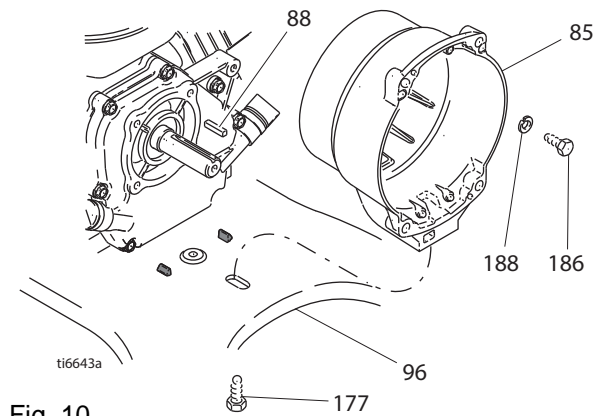

Fig. 10
- 1 Fig. 10. Remove four cap screws (186) and lock washers (188) which hold clutch housing (85) to engine.
- 2 Remove screw (177) from under mounting plate (96).
- 3 Pull off clutch housing (85).
- 1 Fig. 10. Push on clutch housing (5).
- 2 Install four cap screws (186) and lock-washers (188) and secure clutch housing (85) to engine. Torque to 200 in-lb (22.6 N·m).